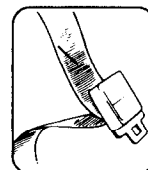

Figure 5.
- 2). COMBINATION LAP/SHOULDER BELT WITH LOCKING LATCH PLATE. (Fig. 5). OK to use.